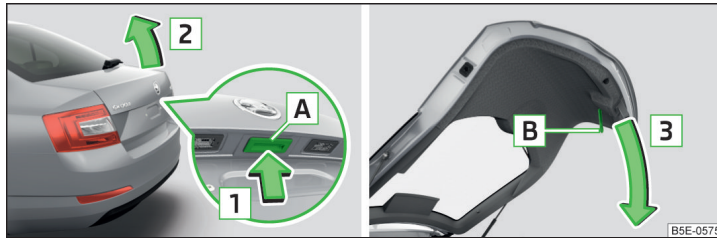

Fig. 42 Opening / closing tailgate
- Press the button **A** in the direction of arrow **1** » Fig. 42.